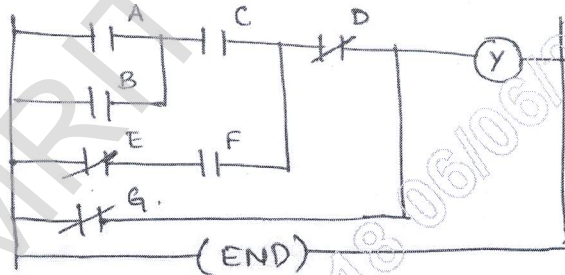

Fig.Q2(c)
- c. Convert the given PLC diagram in Fig. Q2(c) to gate diagram, write the Boolean equation for the same. Also give the functional block diagram. (08 Marks)